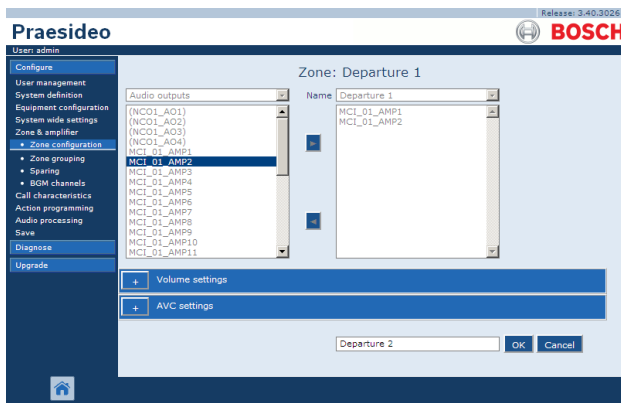

figure 45.4: Add zone, step 2
- 2 Click the *Add* button and enter a name for the new zone in the textbox at the bottom of the page. For example, *Departure 2* (see figure 45.4). It may consist of up to 16 characters.